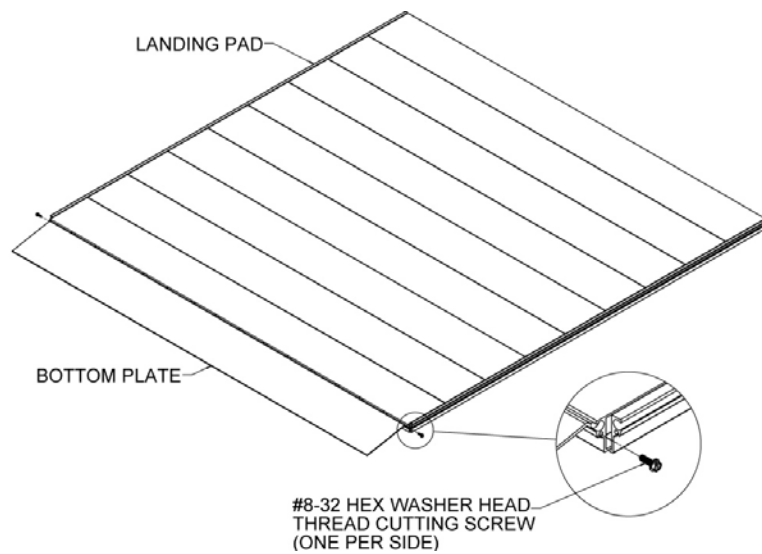

FIG. 7.6
7.4.3. After installing the bottom plate, install #8-32 hex washer head thread cutting screws into the screw slots on both sides (FIG. 7.6).